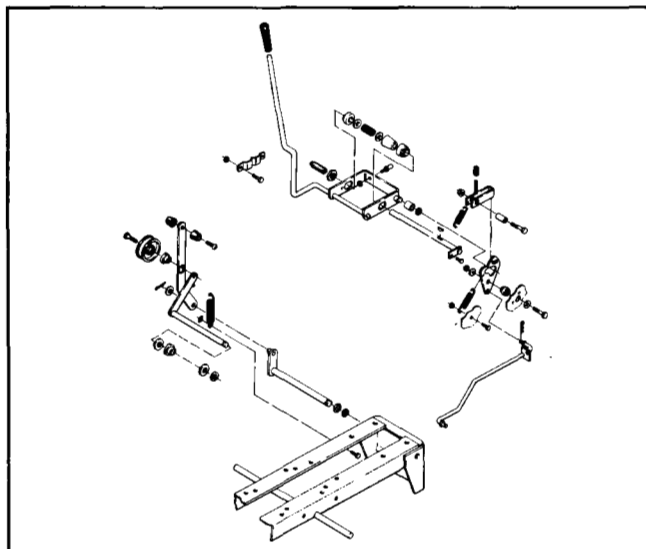

Fig. 5-14 C-Series Motion Control Linkage
2. Remove parking brake lever assembly. Remove nut holding pin to rear of motion control lever assembly. See Fig. 5-14.
11. Remove nut holding pin to rear of motion control lever assembly. See Fig. 5-14.